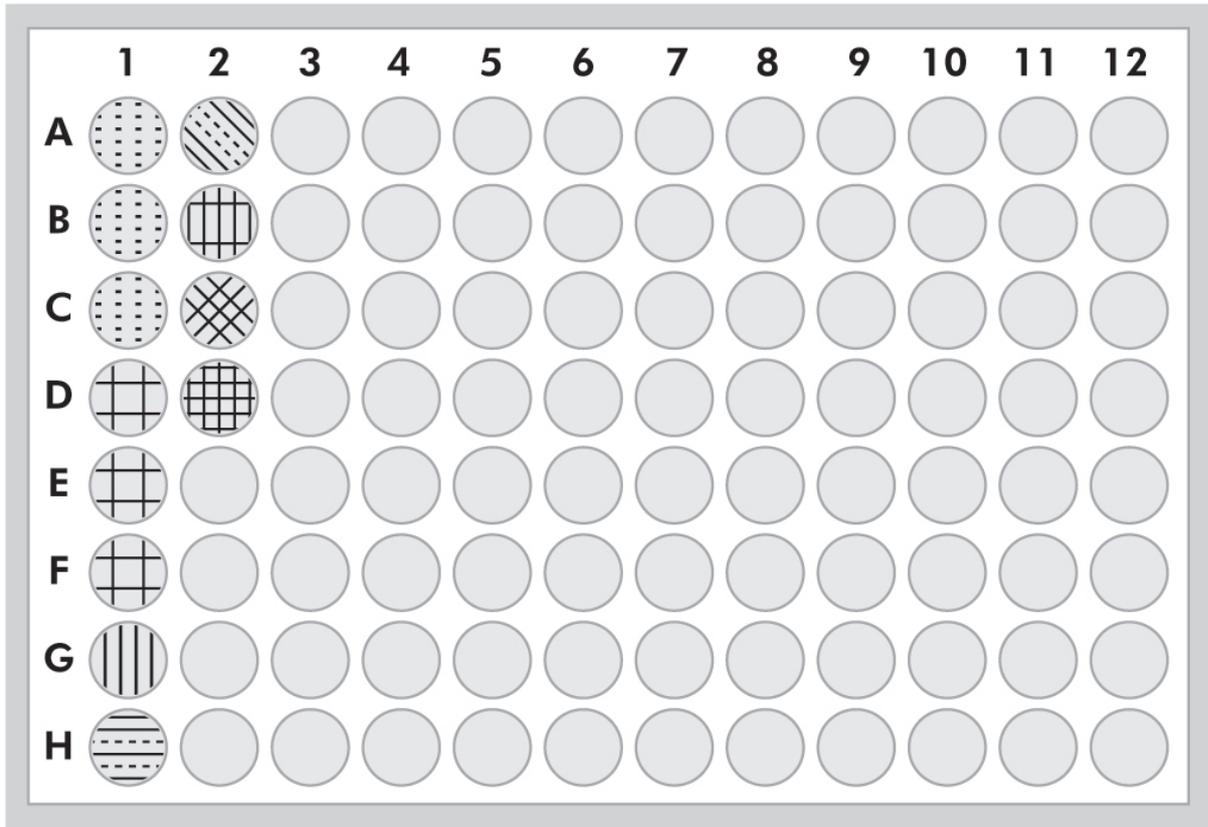

Figure 1. Position of controls and samples on microplate.
- The controls and samples are run in an 8-microplate well column configuration. Complete the "Test Data Recording Worksheet" by recording the IDs of all required controls and samples in the microplate well locations. For each test, the controls must be tested in the following positions on the microplate (see Figure 1, below):